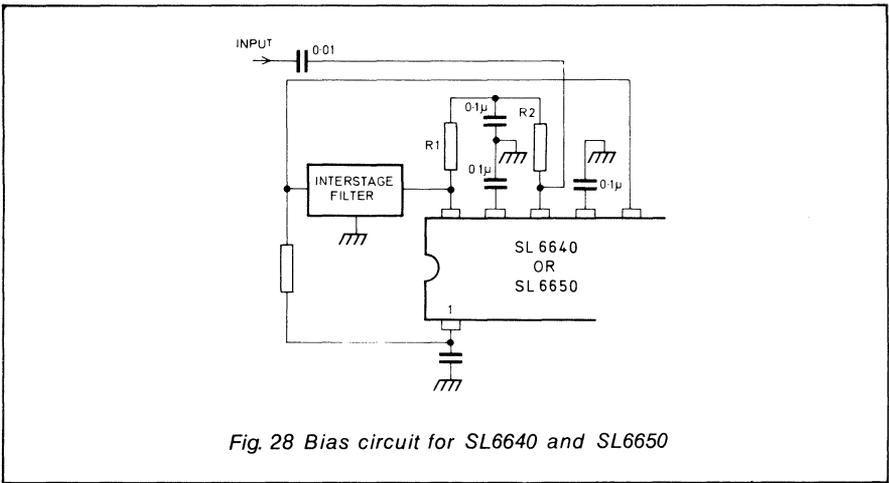

Fig. 28 Bias circuit for SL6640 and SL6650
Bias circuitry for both the main amplifier and the preamplifier is shown in Fig.28. The preamplifier input is pin 16 (14). It is not self biased but is fed with bias from pin 18 (16) via a total of about 15 k Ω . The input impedance of the preamplifier is 5 k Ω shunted by 2 pF. If, as is common, the preamplifier is fed from a filter requiring a precise match, the value of resistor R2 should be chosen to provide this. The source impedance driving the preamplifier should be 750 Ω or less to prevent instability. The input signal should be fed to pin 16 (14) via a capacitor or other DC block. The sum of resistors R1 and R2 should be 15 k Ω and their junction well decoupled at HF. The noise figure of the preamplifier is 7 dB when driven by 350 Ω .